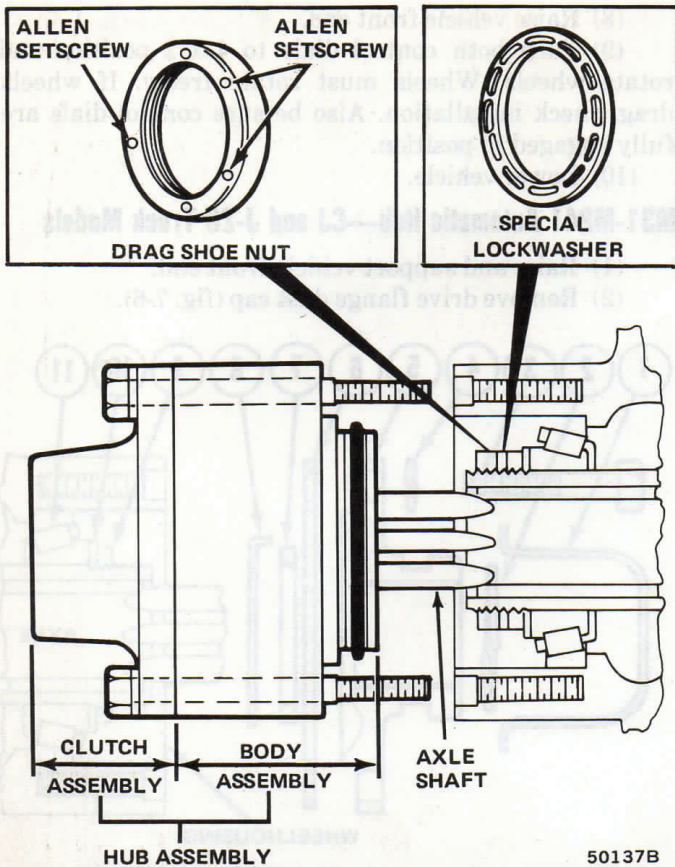

Fig. 7-7 M-31-M241 Hub Assembly
(7) Install special lockwasher on axle shaft (fig. 7-7).
(8) Install drag shoe nut on axle shaft. Tighten nut using punch and tighten three setscrews in nut firmly. At least one setscrew must enter special outer lockwasher. Check setscrew depth to be sure at least one is seated 3/32 inch deeper than others.
(9) Separate hub body assembly from clutch assembly (fig. 7-7).
(10) Position gasket on hub body and install hub body on axle shaft and over drag shoe nut.
(11) Install two hub attaching bolts in opposite holes of hub body. Tighten bolts to depth of 4-5 threads to align hub body on drag shoe nut. Push body assembly
(12) Install new retaining ring on axle shaft. Do not use original retaining ring. Use part from kit only (fig. 7-7).
(13) Align bolt holes in hub body and axle. Install hub gasket on clutch assembly and install clutch assembly on hub body.
(14) Install special tabbed lockwashers on hub attaching bolts and install bolts. Tighten bolts alternately and evenly to 39 foot-pounds (41 N•m) torque. Bend lockwasher tabs over bolt heads after tightening bolts.
(15) Turn both hub control dials to Auto position and rotate wheels. Wheels should rotate freely. If wheels drag, check installation and correct as necessary. Be sure dials are fully engaged.
(16) Remove supports and lower vehicle.